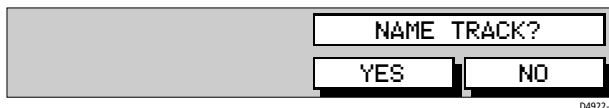

Figure 3-56: Name Track Soft Keys
3. Press SAVE TRACK. The Name Track soft keys are displayed as shown in *Figure 3-56*.